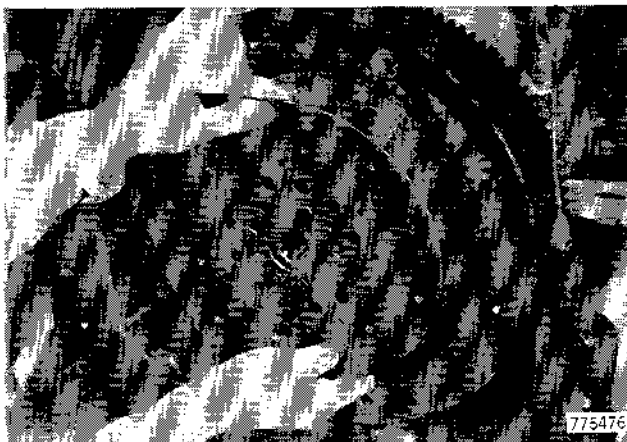

Figure 111
16. Install the inner clutch disc with the large hub toward flywheel as shown in Figure 111.